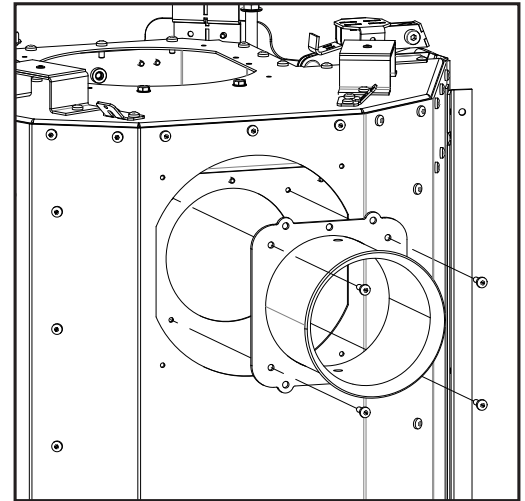

Figure 72: Exhaust Spigot Attachment
10. Attach the exhaust spigot to where the block-off plate was removed (see Figure 72).